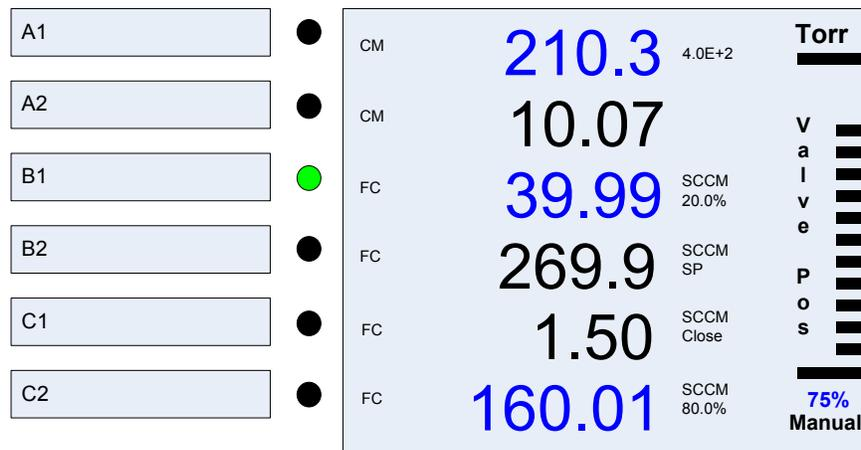
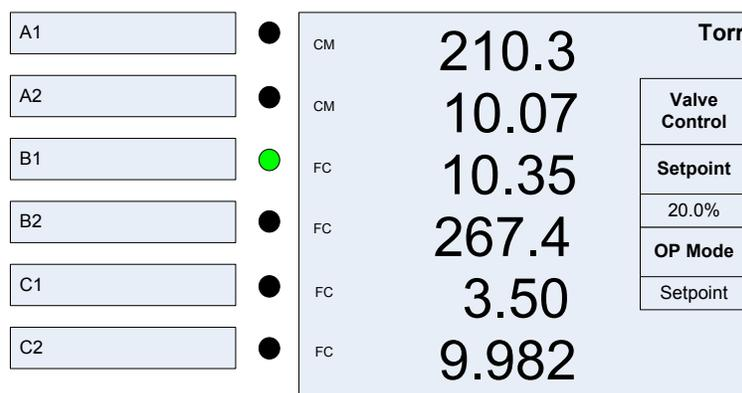

Figure 6-23 946 Display with a Pressure Control Module Installed
Figure 6-26 Display with Valve Control Dialog Box
Once a valve control module is installed in a 946 controller, it will be detected, and the 946 Front Panel Display will automatically appear as shown in Figure 6-23.
1. Press the **Pressure Control** button on the front panel until the valve control dialog box shown in Figure 6-26 is displayed. Note that this screen can only be displayed if a pressure control module is inserted in the COMM slot.
3. For Set Point control of the valve (set the valve opening to specific position), first enter an appropriate Set Point value in the box below Set Point (20.0% in Figure 6-26). Then change the OpMode to Set Point with the up/down keys, or press the **Setpoint** key on the front panel. In either case, press **Enter** key afterward to confirm. Once the valve is in set point operation, the set point value can be adjusted without stopping the Set Point control.
4. Manual operation mode enables the dynamic manual adjusting the valve position. Once the manual operation mode is selected, the dialog box as shown in Figure 6-26 will disappear, the screen shown in Figure 6-23 will appear. The Set Point value can then be increased or decreased with the ◀ or ▶ keys. The current opening is shown numerically in blue as a percentage.
To close the valve, press the  key until the display is as shown in Figure 6-26, move the cursor to the box below OP Mode, and change the parameter to Close, or press the  button. In either case, press the  key afterward to confirm.
To Open the valve, press the  key until the display is as shown in Figure 6-26, move the cursor to the box below OP Mode, and change the parameter to Open, or press the  button. In either case, press the  key afterward to confirm.
3. Valve in fixed position defined by the set point as shown in valve control dialog box (refer to Figure 6-26).
To set the valve to fixed position, press the  key until the display is as shown in Figure 6-26, move the cursor to the box below OP Mode, and change the parameter to Set Point, or press the  button. In either case, press the  key afterward to confirm.